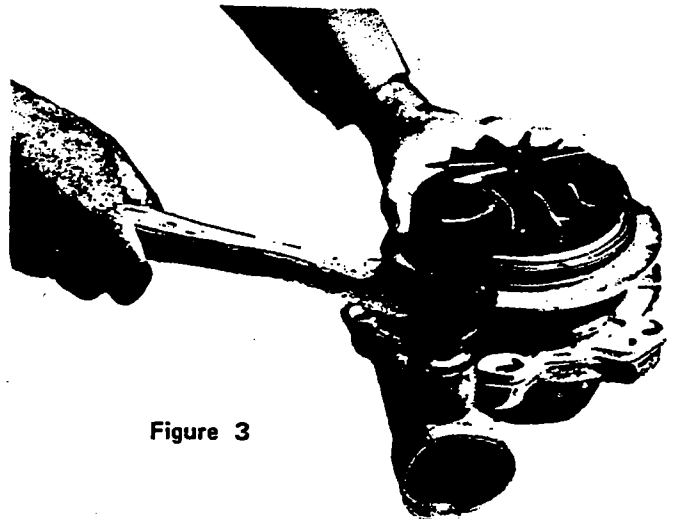

Figure 3
5. Using a 5/32 Allen wrench, remove the six (6) countersunk cap screws that secure the compressor housing to the bearing housing assembly. Separate these two components and remove the gasket. It may be necessary to tap the compressor housing gently with a plastic mallet while holding the bearing housing assembly as shown in Fig. 3.
B. Using a 5/32 Allen wrench, remove the six countersunk cap screws (23) that secure the compressor housing (22) to the bearing housing assembly. If necessary, gently tap the compressor housing with a plastic hammer (see Fig. 3) to loosen it from the bearing housing assembly.
C. The impeller nut (20) has a left-hand thread! To prevent the turbine wheel from rotating while the nut is being removed, follow one of the three following recommended methods: